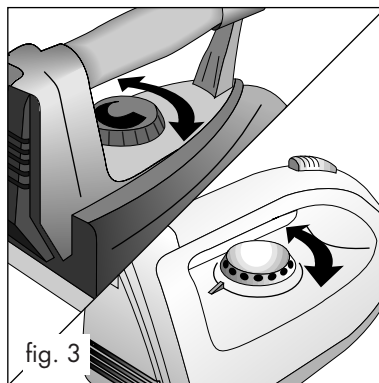

fig. 3
- Turn the knob of the thermostat **B** (see fig. 3) to set the temperature required.